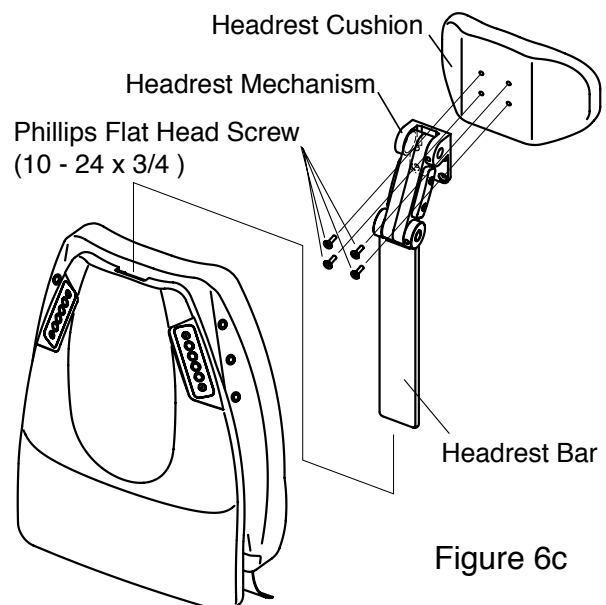

Figure 6c
8) Attach headrest cushion to headrest mechanism by using 4(10-24 x 3/4) phillips flat head screws and slide headrest bar into opening in top of backrest. (See Figure 6c)